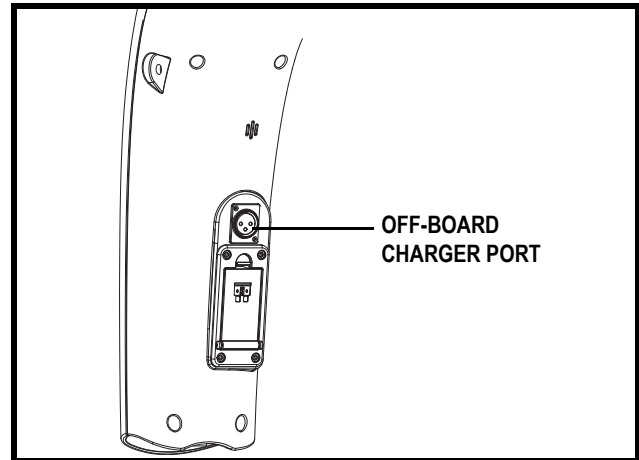

Figure 5. Off-board Charger Port (Tiller Mounted)
The off-board charger power cord plugs into this port during battery charging. The off-board charger port will be located on the tiller. See **figure 5**.
4. Plug the 3-pin charger power cord into the off-board charger port. See figures 5 and 10.